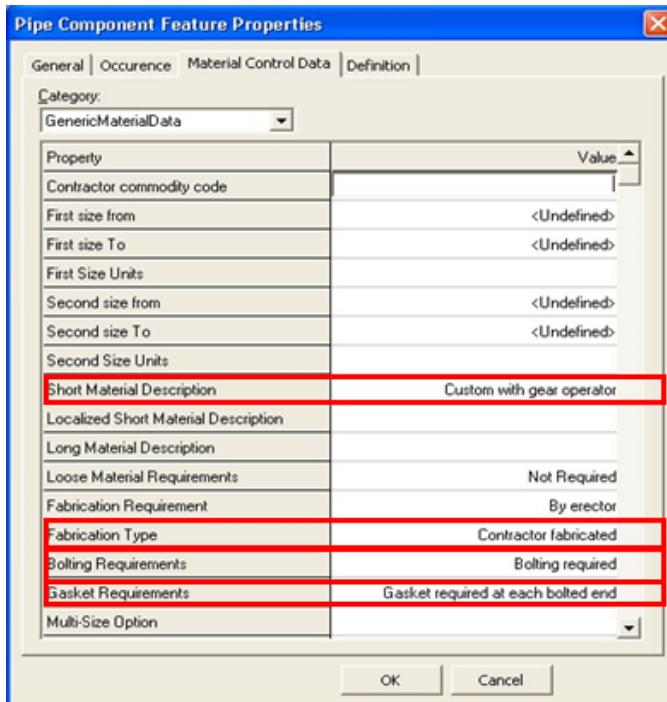

Figure 7. 16: Material Control Data Tab in the Pipe Component Feature Properties Dialog Box
- You can preview the instrument and the instrument specifications by clicking the **Show Dimensional Legend** button on the Occurrence tab in the Pipe Component Feature Properties dialog box, as shown in Figure 7. 17.